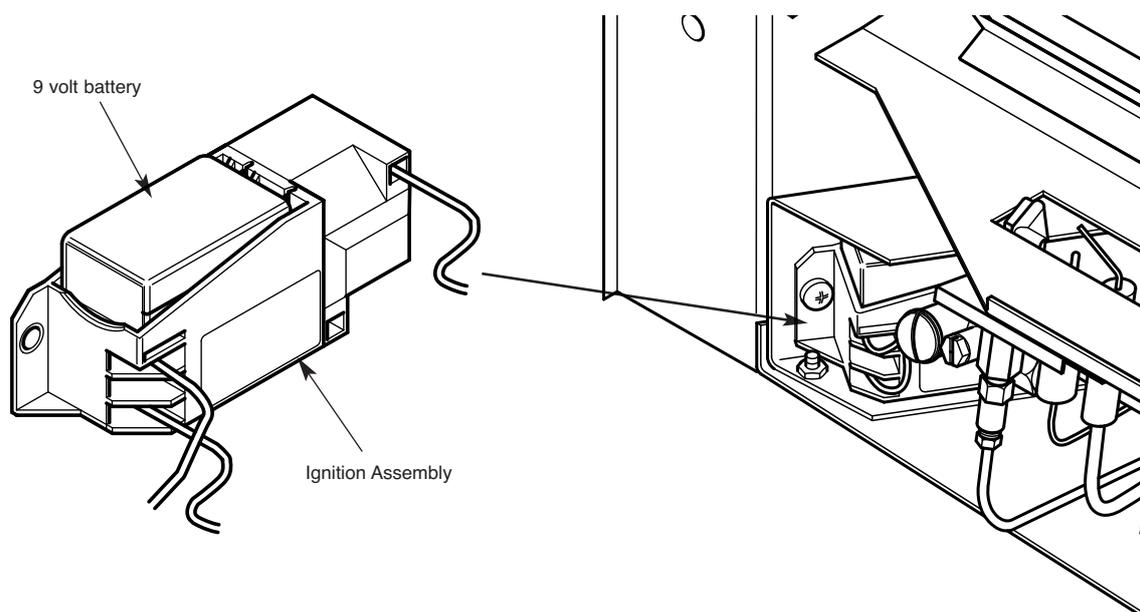

Fig. 16
5. **Battery Replacement** - The battery will need replacing from time to time. To change the battery, switch off the appliance and leave to cool down. Remove the fire front and locate the battery holder (Fig.16). This is located at the bottom left hand side of the appliance. Remove the battery. Replace with a good quality alkaline battery.